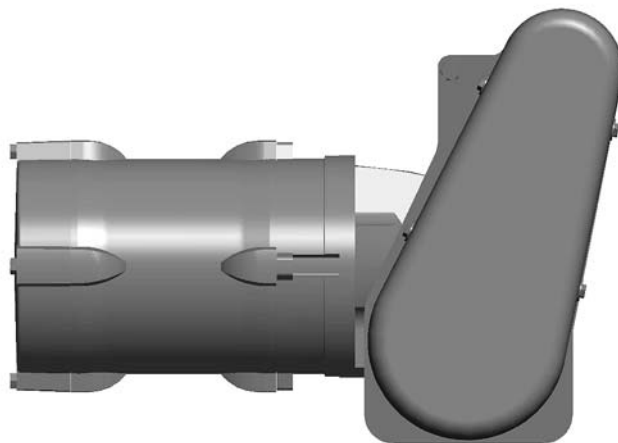
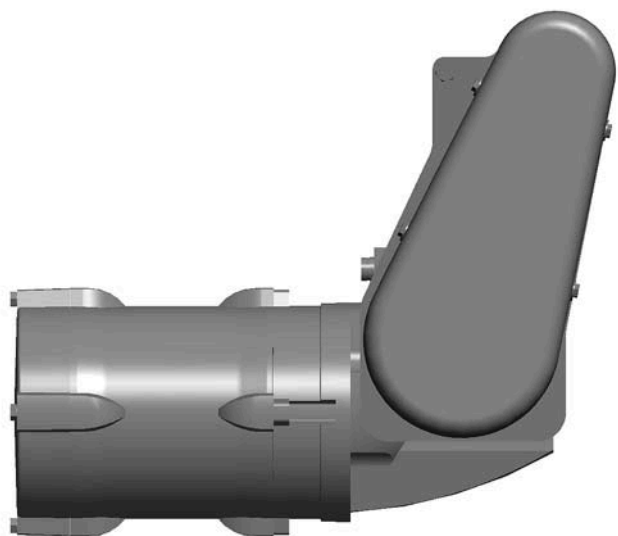

Figure 26
Figure 27
*Bottom 90° mount gearmotors should be oriented with the gear head up (**Figure 26**) for flat belt conveyors, and gear head down (**Figure 27**) for cleated belt conveyors.*